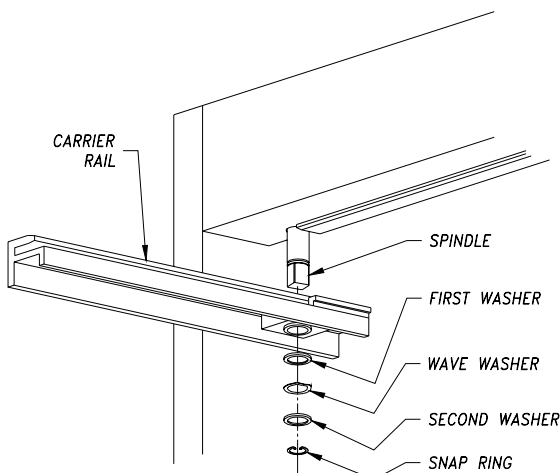

FIGURE 12: Carrier Rail Assembly
- b) Place the first washer, the wave washer, the second washer and then the snap ring onto the spindle. The snap ring should set securely in the groove on the spindle (Figure 12).